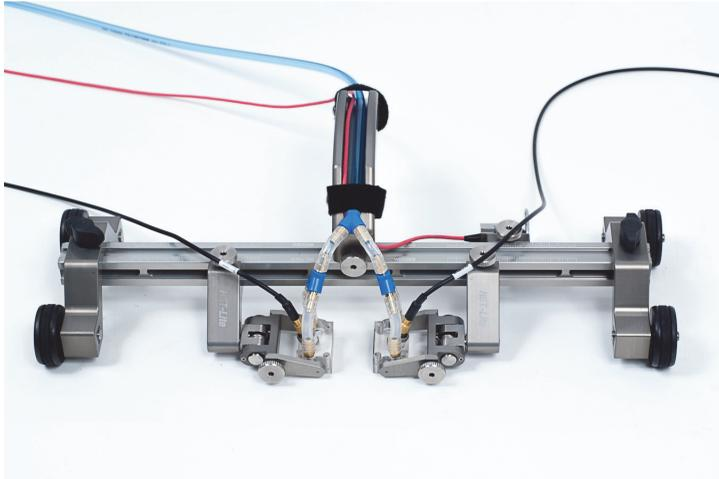

Figure 1-14 Irrigation tube linked to the wedges
9. Link the wedges to the irrigation tube using pieces of transparent tubes cut to the required length (see Figure 1-14 on page 19).